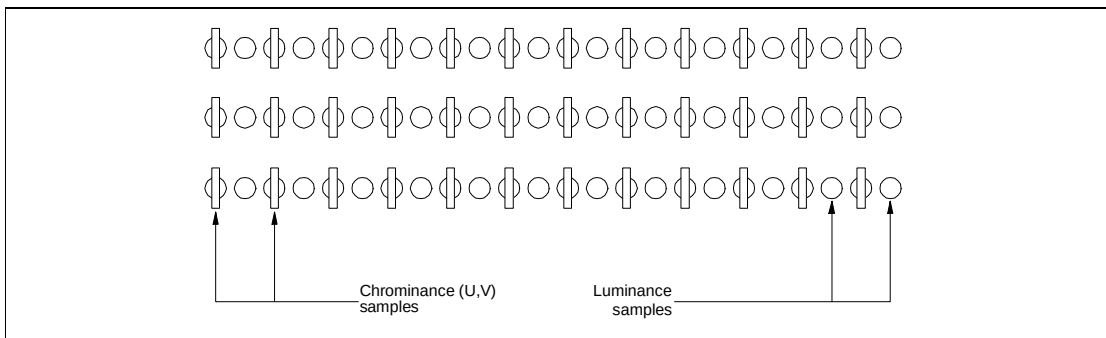
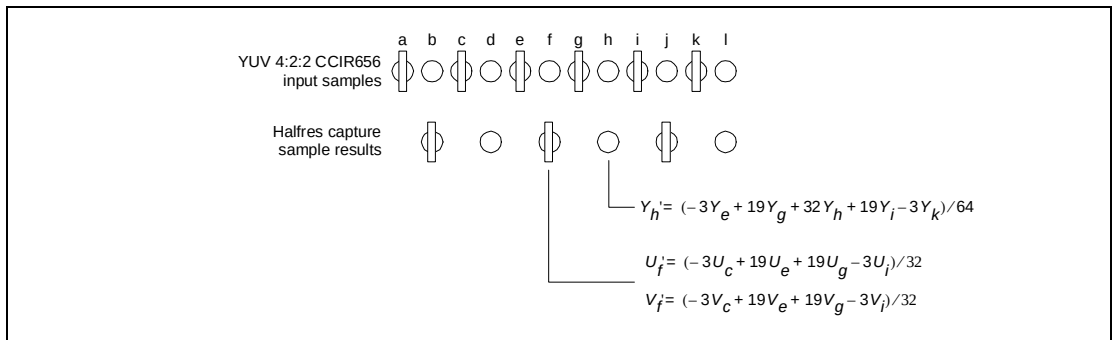
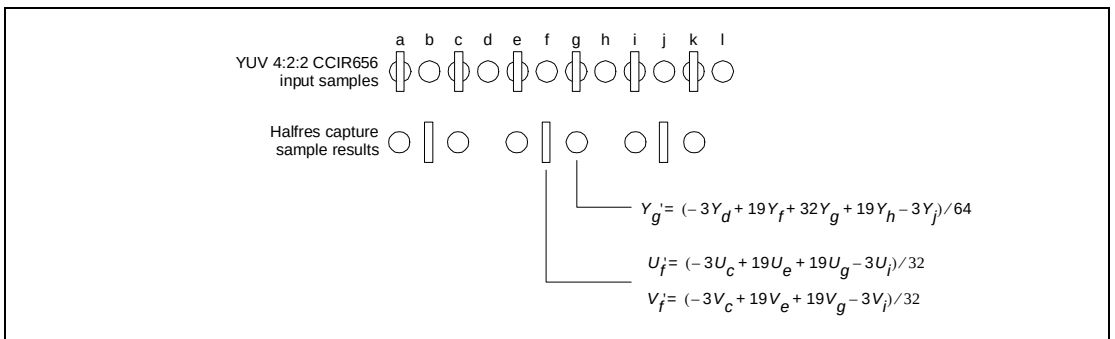

Figure 6-5. Camera YUV 4:2:2 sampling (co-sited luminance/chrominance).
Figure 6-13. Halfres co-sited sample capture.
Figure 6-14. Halfres interspersed sample capture.
The CCIR656 standard specifies that the camera has to obey the sampling rules illustrated in Figure 6-5. VI is capable of chrominance resampling, and can produce samples in memory in two ways:
Horizontal-resolution reduction is performed as shown in Figure 6-13 or Figure 6-14. The spatial sampling conventions of the pixels in memory depends on the SC (sampling convention) bit in the VI\_CTL register. Assuming that the camera sampling positions obey the conventions shown in Figure 6-5, two possible spatial formats are supported in memory:
- If SC=0, co-sited luminance and chrominance samples result as shown in Figure 6-13. This corresponds to the standard YUV 4:2:2 sampling conventions.
- If SC=1, interspersed chrominance samples result, as shown in Figure 6-14. This form is (after vertical subsampling of the chroma components) identical to the MPEG-1 sampling conventions. If vertical subsampling is desired, it can either be performed in software on the DSPCPU or in hardware by the ICP.